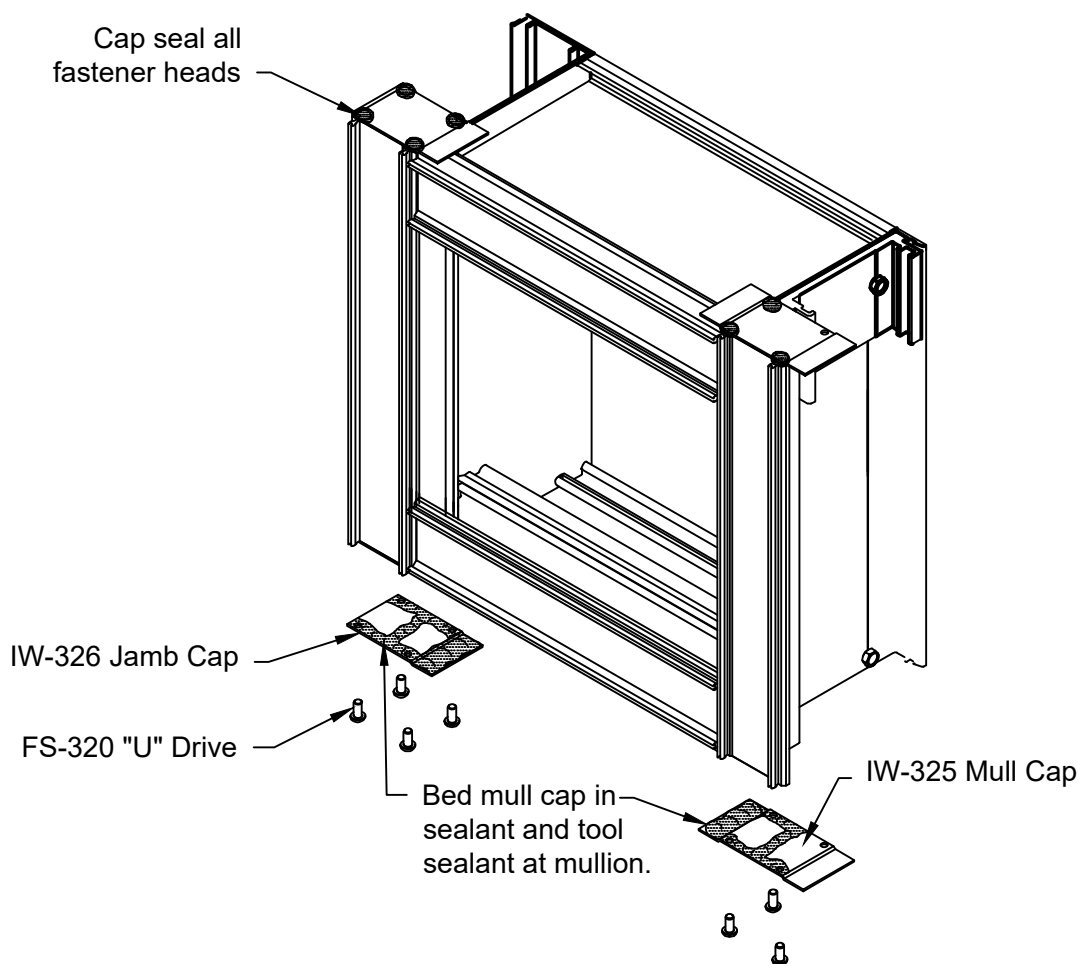

FIGURE 9
- 2.7 After units are assembled. Install mull caps to each end of vertical mullions and jambs. IW-325 & IW-326 cap will be bed in sealant and attached to mullion with FS-320 drive screws. Sealant must be tooled around inside of glazing pocket and on mating surfaces between mull cap, head/sill and verticals. See FIGURE 9. Note: SSG mullions will not use mull caps. Bridges will be field installed at SSG verticals as noted on sheet 30.